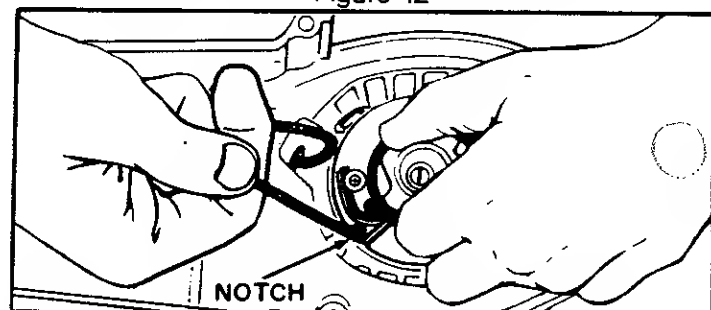

Figure 43
20. Pull out 10 inches of rope and set the rope in the notch in the pulley. Figure 43.